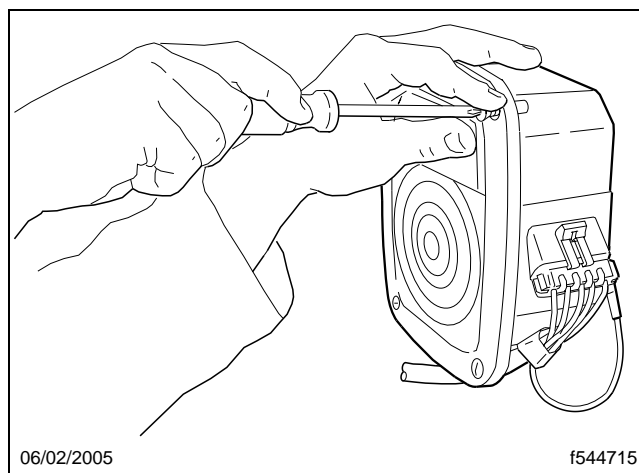

Fig. 3, Taillight Lens Removal
1. Remove the four screws that attach the lens to the housing. See **Fig. 3**.